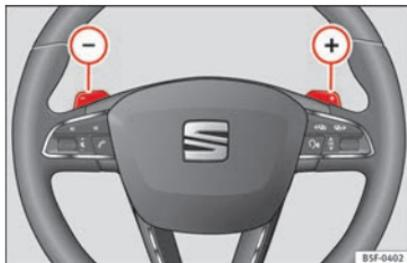

Fig. 196 Steering wheel: automatic gearbox levers
- Press the gearshift paddle (+) to select a higher gear » **Fig. 196.**